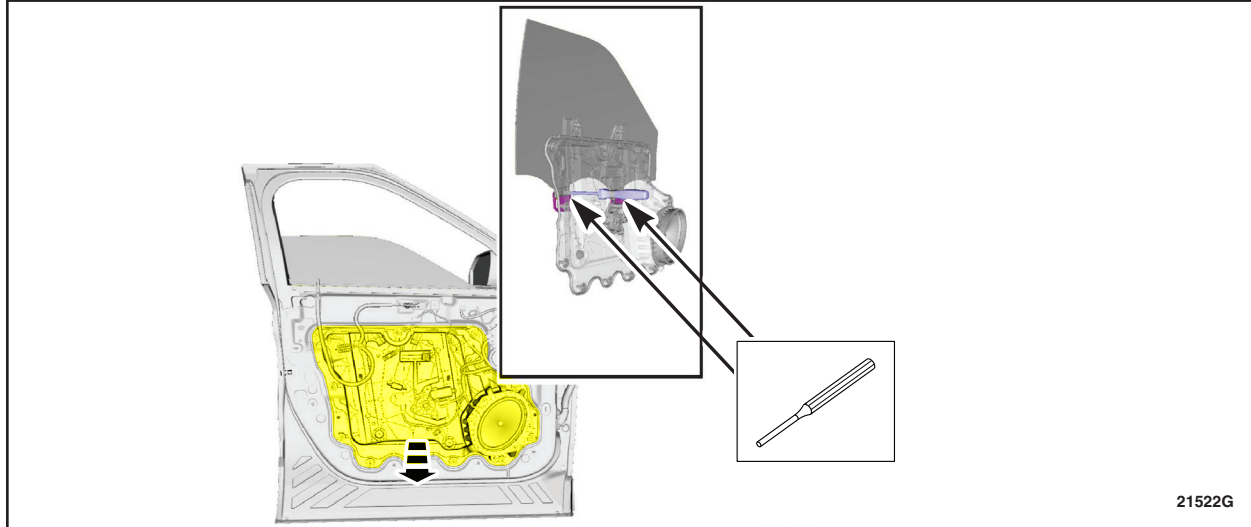

**FIGURE 22**
8. Release the front door window regulator retaining clips. Then position the front door window regulator retaining clips into the service position. See Figure 22.